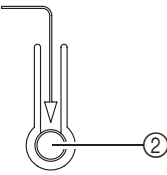

Fig. 2
- ① **Operating Control Panel (Fig. 2)**
- ② **MANUAL AUTO button**